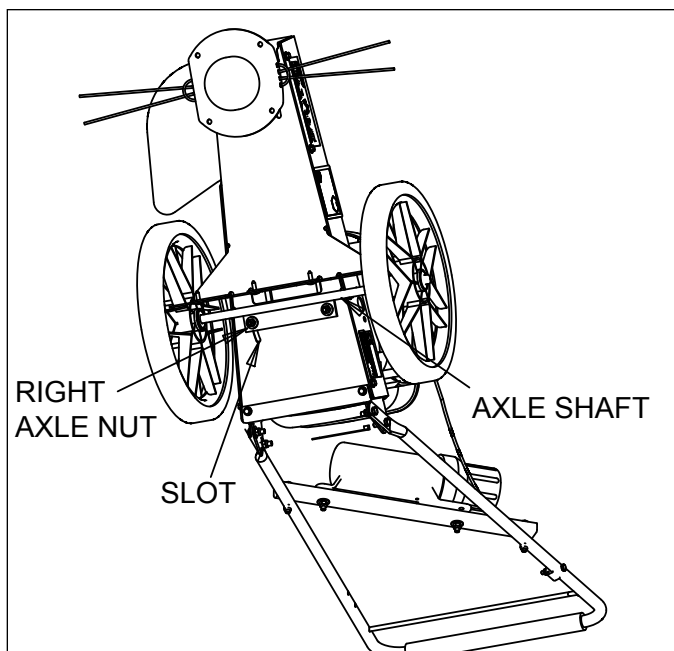

Figure 4.1 - Adjusting the Mower
1. Loosen the right axle nut located on the bottom of the trimmer directly behind the axle shaft (Figure 4.1).